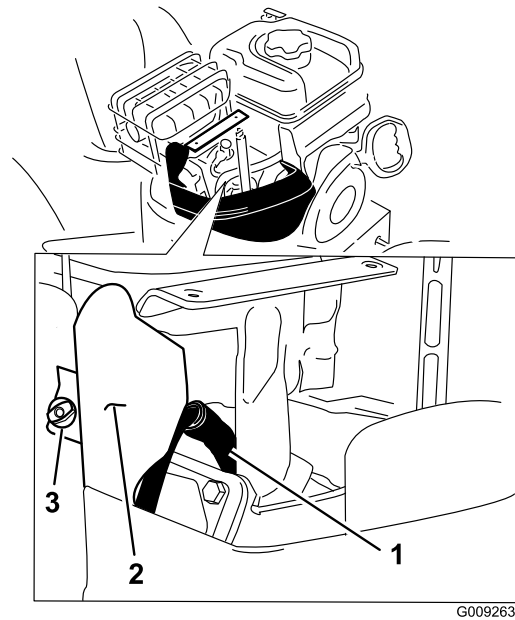

**Figure 44**
**Note:** To access the spark plug, you must first remove the upper snow hood (Figure 44).
1. Remove the choke knob and the ignition key (Figure 44).
2. Remove the 2 screws that secure the upper snow hood to the snowthrower (Figure 44).